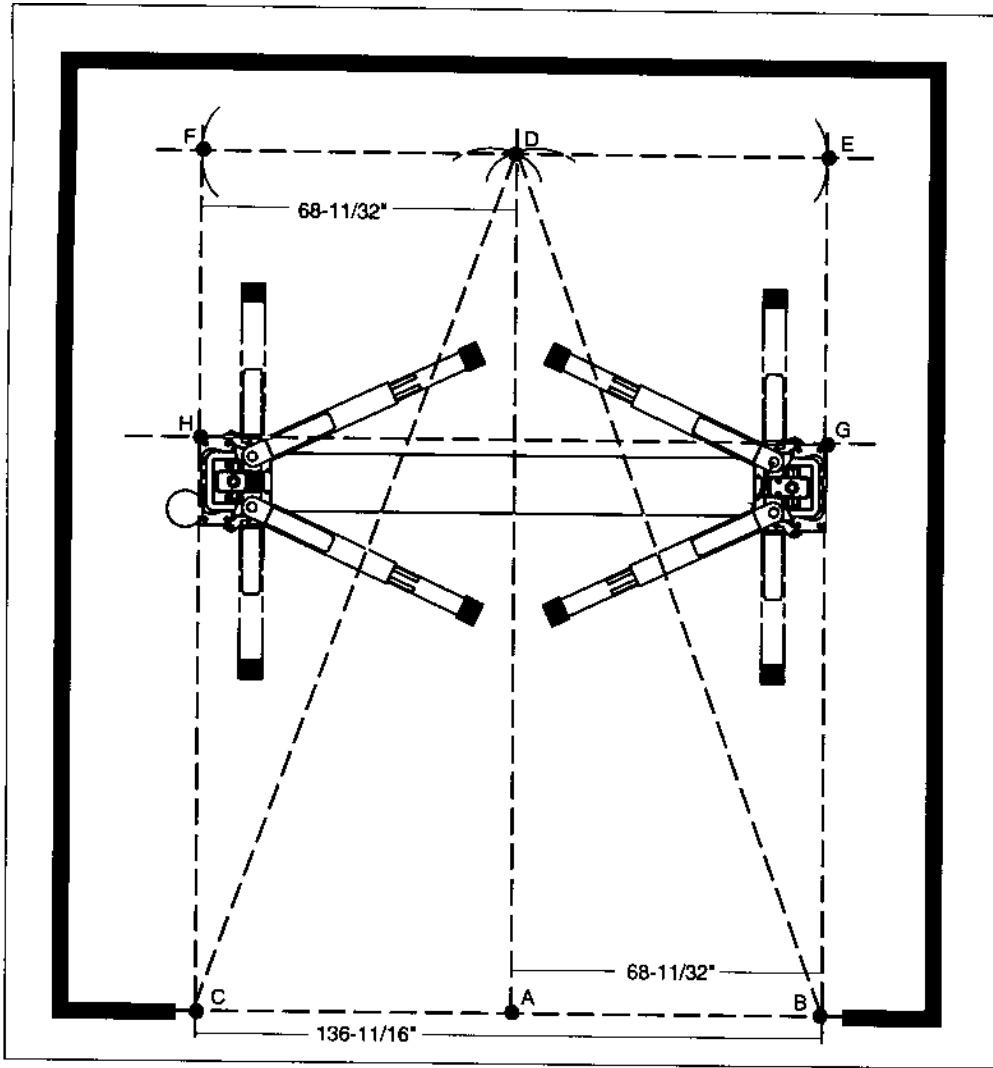
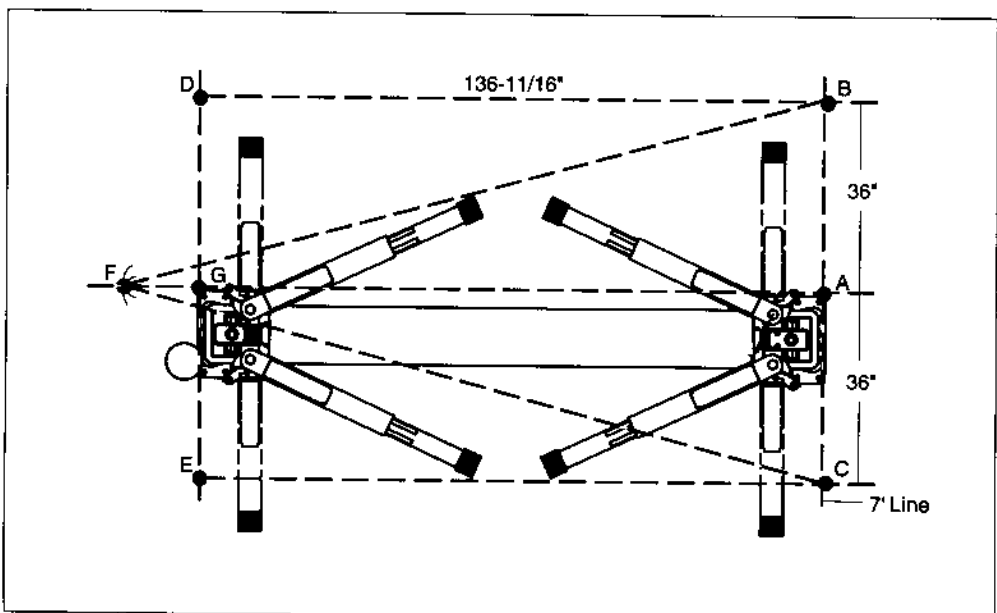

Figure 3 - Locating the Lift (with Garage Door)
Figure 4 - Locating the Lift (without Garage Door)
1. Snap a chalk line in the threshold of the garage door. Measure and divide the distance in half to establish the center of the doorway, point "A", along this baseline. Refer to Figure 3.
2. Mark a straight 7 foot line along the outside edge of the passenger side post base mounting plate. Refer to Figure 4.
3. Stand both posts into position according to Figure 3 or Figure 4 (depending on which type of installation you are performing).